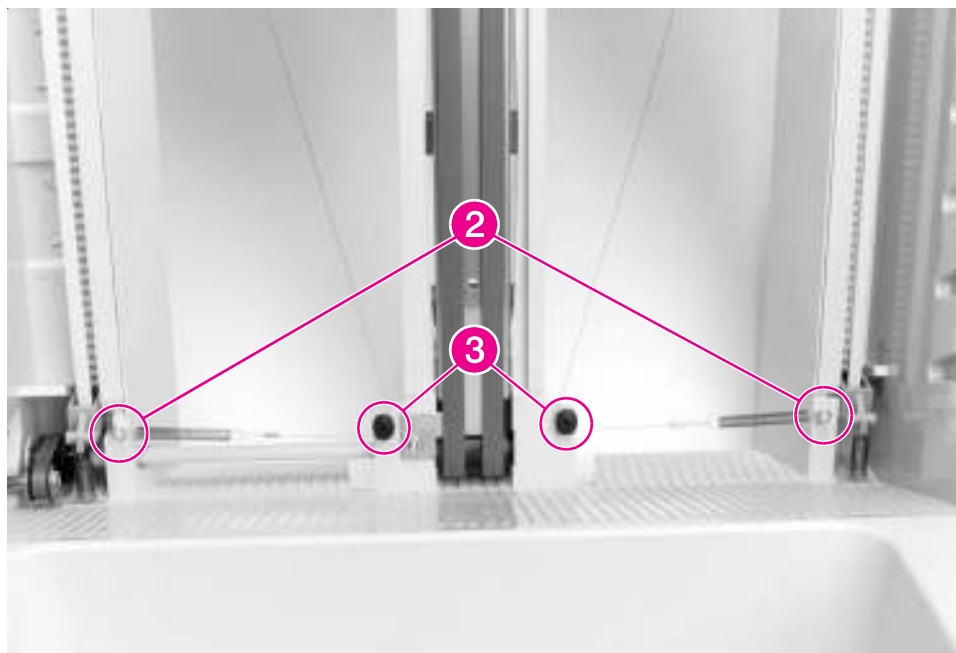

Figure 6-168 8-bin Mailbox Delivery Head Assembly (2 of 4)
- 4 At the lower-left side of the 8-bin Mailbox frame, locate the Tension Springs on the Anticurl Strings, and remove the 2 screws that secure the springs to the frame (Figure 6-168, callout 2).
- 3** Replace the Tension Springs on the Anticurl Strings at the bottom of the frame with the T-10 Torx screws (Figure 6-168, callout 2).
- 4** Snap the Anticurl Strings into the pulleys at the bottom of the frame (Figure 6-168, callout 3).